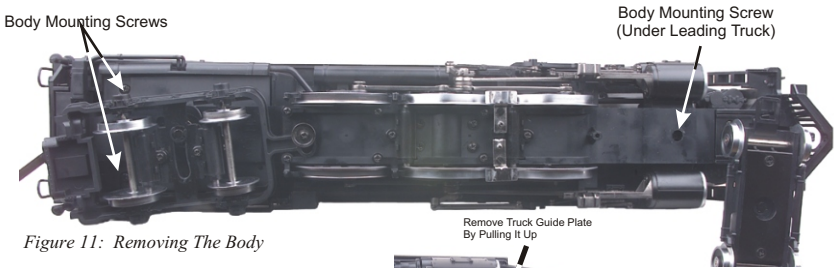

Figure 11: Removing The Body
1. Turn the engine upside down and remove the leading truck mounting screws (you will have to remove the leading truck plate as well) to gain access to the front boiler mounting screw. Remove that screw and the two rear boiler mounting screws as seen in Figure 11.